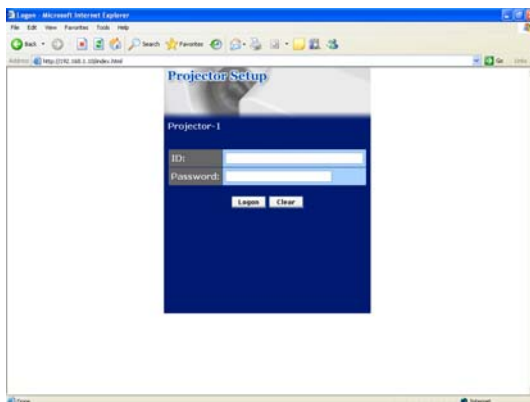

Fig. 2.3.4 “Logon Menu”
2) If Fig. 2.3.4 appears, it succeeds.